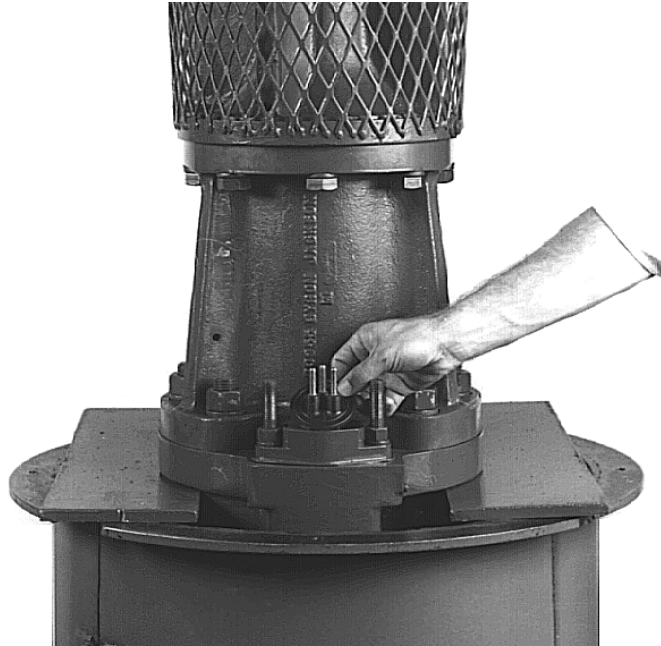

Figure 5.2.8e Installing power terminal gasket (flat-faced type shown)
2. Install flat gasket (4590) over power terminals (8393). See Fig 5.2.8e